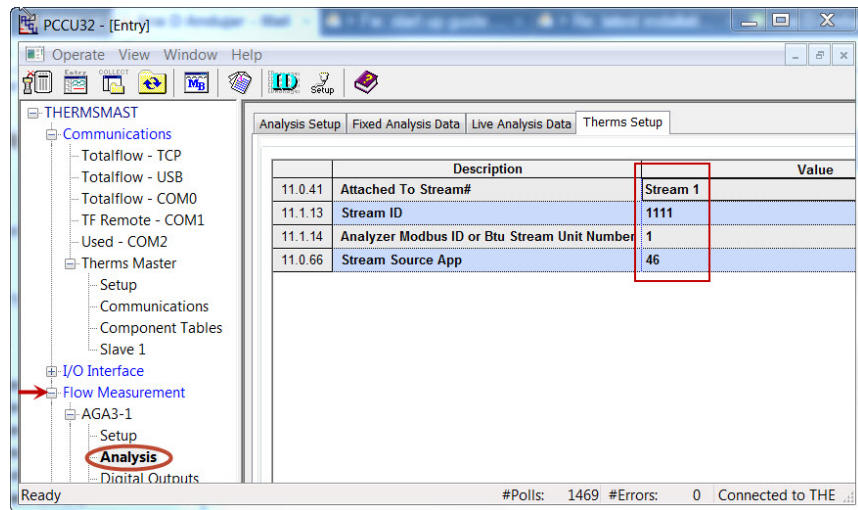

Figure 30. Attach analysis stream to measurement tube
- 8) Click Re-read to verify parameters were saved correctly (see Figure 30).